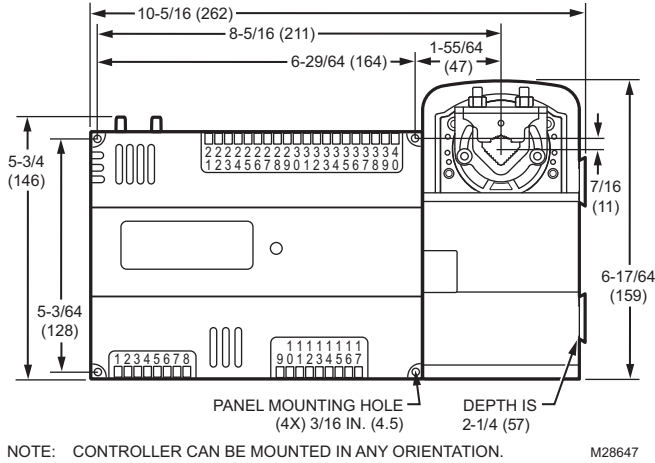
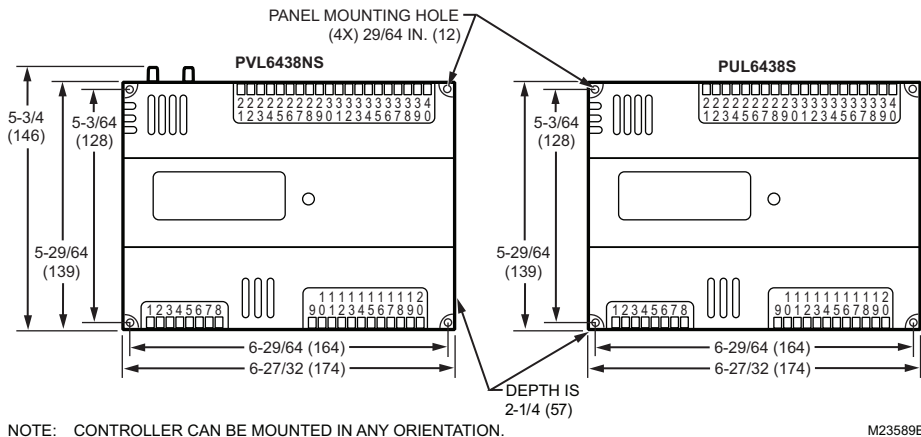
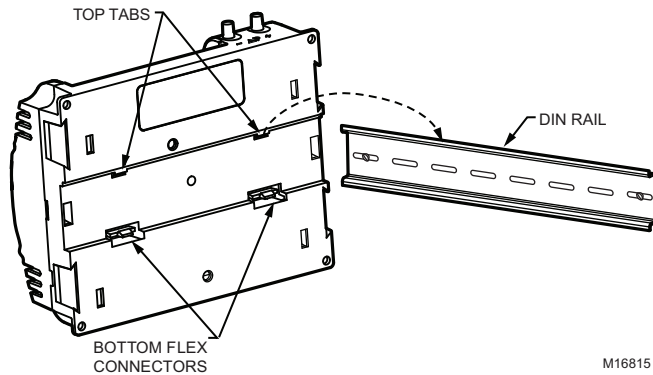

Fig. 4. Panel mounting — controller and actuator dimensions in inches (mm) for PVL6436AS only.
Fig. 7. Panel mounting — controller dimensions in inches (mm) for PUL6438S and PVL6438NS only.
Fig. 8. Controller DIN rail mounting (models PUL1012S, PUL4024S, PUL6438S, PVL4024NS, and PVL6438NS).
Avoid mounting in areas where acid fumes or other deteriorating vapors can attack the metal parts of the controller, or in areas where escaping gas or other explosive vapors are present. See Fig. 4–Fig. 7 on page 4 for mounting dimensions.
See Fig. 4 to Fig. 7 for panel mounting dimensions. See Fig. 8 on page 5 for DIN rail mounting.
To mount the PUL1012S, PUL4024S, PUL6438S, PVL4024NS, or PVL6438NS controller on a DIN rail [standard EN50022; 1-3/8 in. x 9/32 in. (7.5 mm x 35 mm)], refer to Fig. 8 and perform the following steps:
2. Rotate the top of the controller outwards to release the bottom flex connectors (see Fig. 8 on page 5).